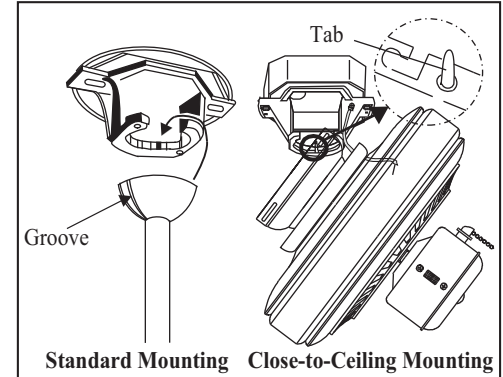

Figure 12
4. Carefully lift the fan assembly up to the ceiling mounting bracket and hang the fan on the tab provided by utilizing one of the holes at the outer rim of the ceiling canopy (Figure 12). If use standard mounting, seat the hanger ball in the mounting bracket socket. Make sure the tab on the mounting bracket socket is properly seated in the groove in the hanger ball (Figure 12).
THE TAB AS SHOWN IN FIGURE 12 IS ONLY TO BALANCE THE FAN WHILE ATTACHING WIRING. FAILURE TO HANG AS SHOWN IN FIGURE 12 MAY RESULT IN TAB BREAKING CAUSING THE FAN TO FALL. TAB MUST PASS FROM INSIDE TO OUTSIDE OF CANOPY.